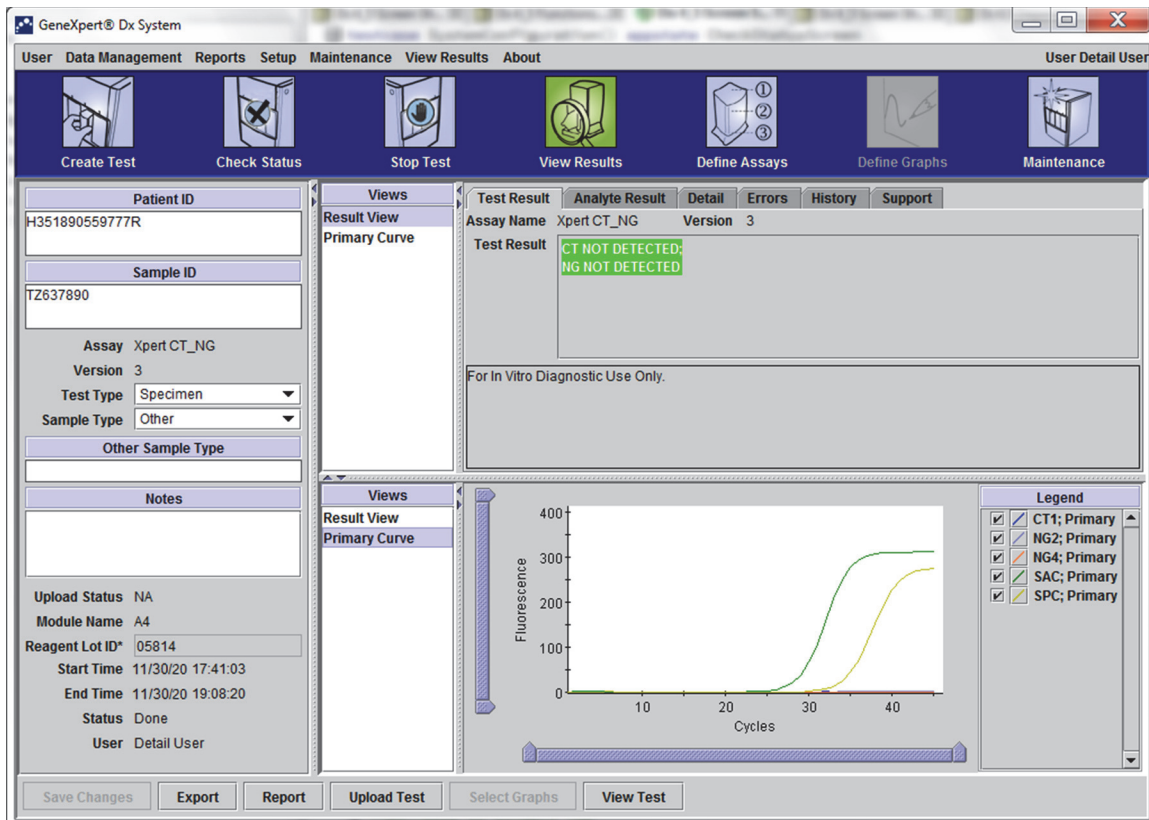

Figure 5-27. GeneXpert Dx View Results Window (Detail and Administrator View)
1. In the GeneXpert Dx system window, click **View Results** on the menu bar. The View Results window appears. See Figure 5-27.
The View Results window displays different features for different user types. Section 5.12.2, Basic User View describes the View Results window for the Basic users. Section 5.12.3, Detail User and Administrator View describes the View Results window for the Detail users and Administrator users. Figure 5-27 shows a View Results window for Detail users and Administrator users.